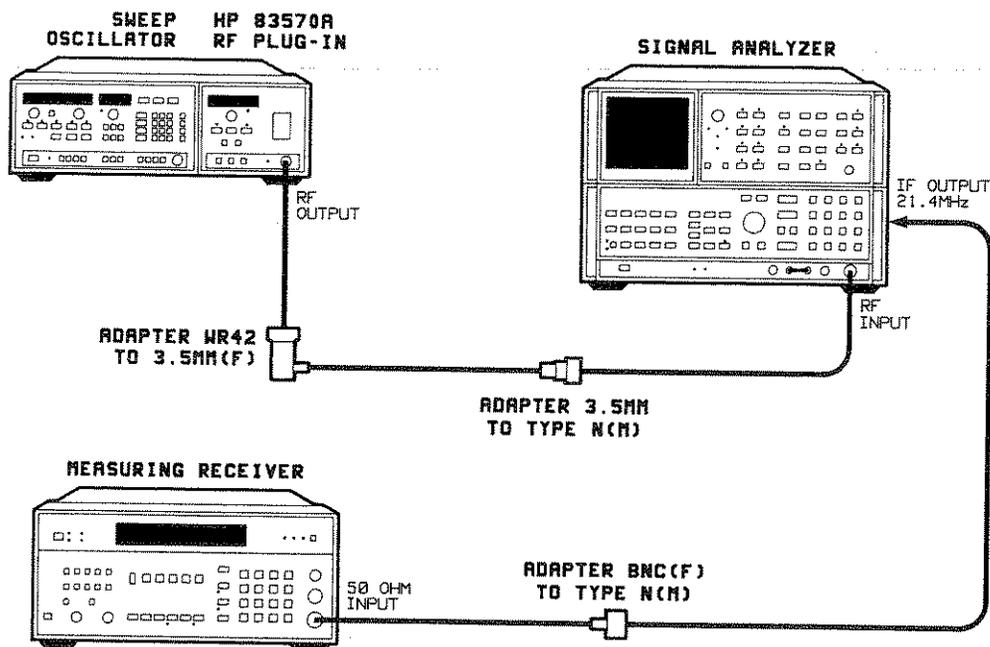

Figure 4-5. Residual FM Test Setup
1. Connect the equipment as shown in Figure 4-5. Allow at least one hour warm-up.